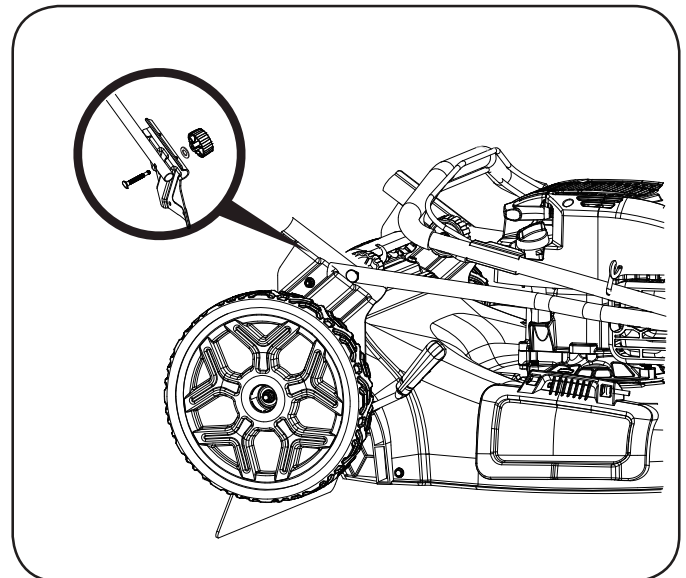

Figure 3
2. Screw handle fixing knobs and bolts for mounting the lower handle on the handle holder (Figure 3).